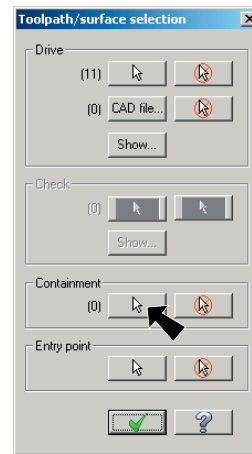

Fig. 22
Step 6. Click **Containment Select** button, **Fig. 22**.